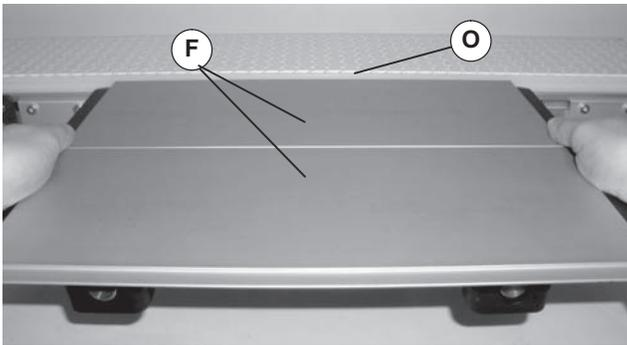

Figure 18
2. Pull table (Figure 18, item F) away from conveyor (O) about 1/2" (13 mm).